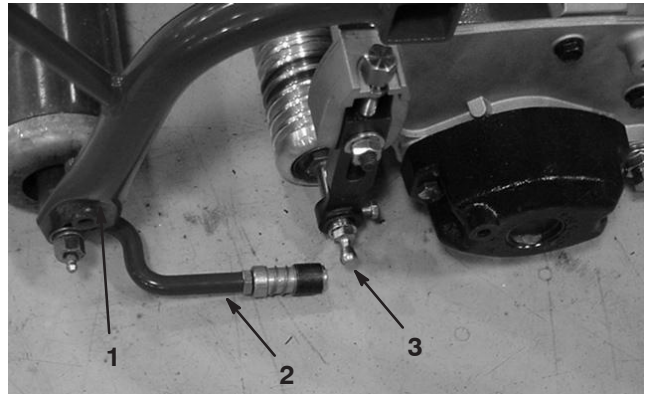

Figure 8
2. Mount a washer and ball stud to each end of the front roller on the cutting units (Fig. 8).